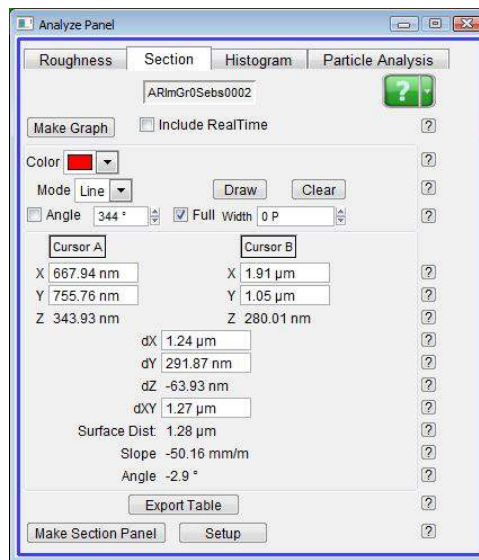

Figure 1.16.: The Section tab of the Analyze Panel.
- Select the 'Angle' checkbox, then manually adjust the angle by typing values into the *Angle* field on the Section panel (Figure 1.16 on page 38).